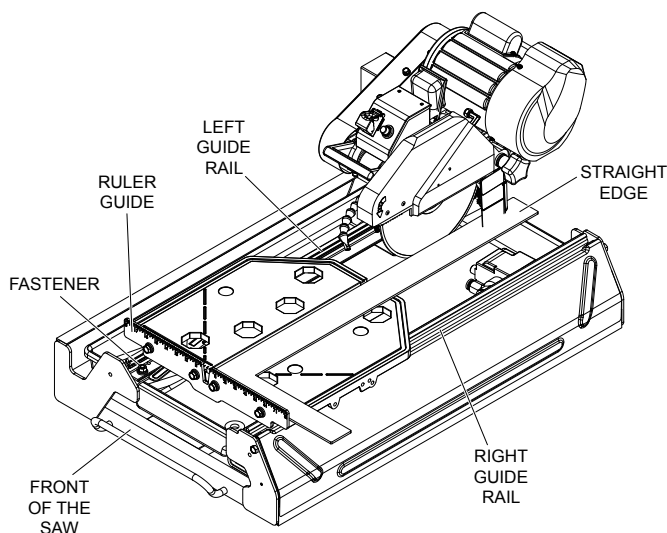

Figure 22. Realigning Guide Rails
2. Place a straight edge (i.e. carpenter's square) on the cutting table as shown in Figure 22.